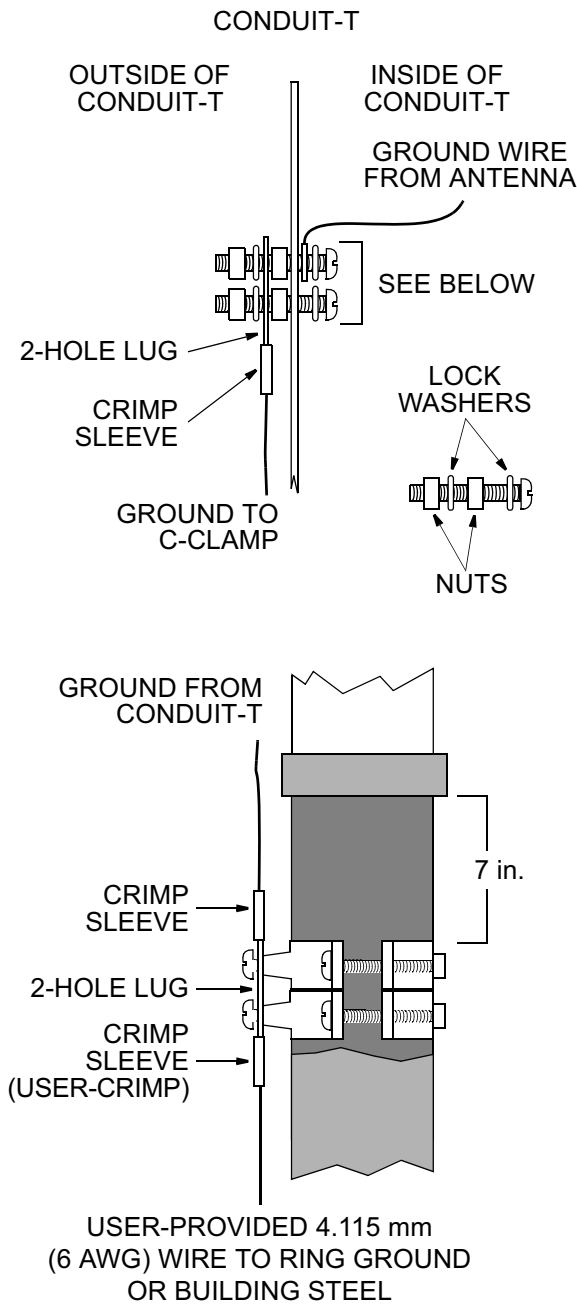
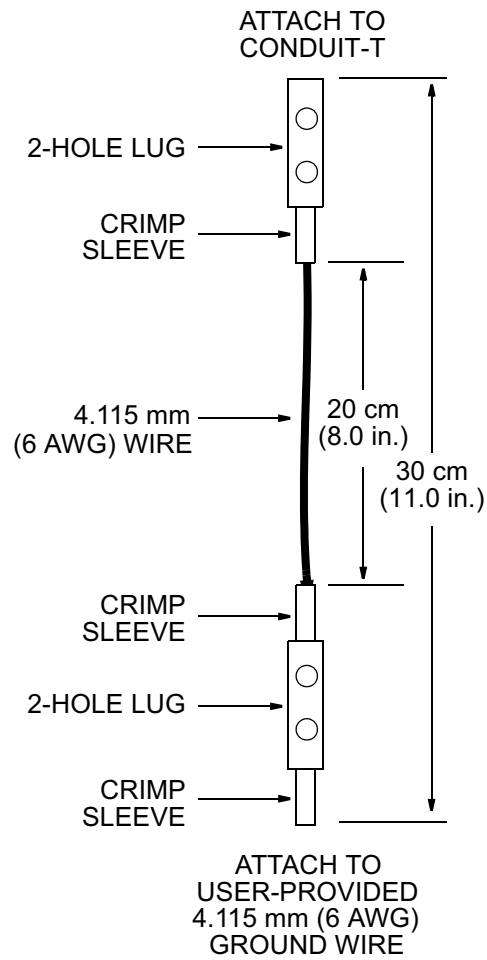

Figure 20. Grounding Wire Connections
Figure 21. Grounding Wire with Two-Hole Lugs
- 43. Insert a 8-32 x 15.8 mm (5/8 inch) bolt through a lock washer (factory-provided), then through the grounding lug on the antenna ground wire, and through one screw hole (from the inside to the outside) on the side of the conduit-T (see Figure 20 and Figure 21).
- 45. Obtain the (factory-provided) 4.115 mm (6 AWG) grounding wire (with two-hole lugs attached at both ends; see Figure 21).
- 46. On the outside of the conduit-T, thread a nut onto the 8-32 x 15.8 mm (5/8 inch) bolt, the two-hole lug without the crimp sleeve, then a second lock washer, and secure with the second nut (factory-provided) (see Figure 20).
- 47. Connect the 4.115 mm (6 AWG) grounding wire to the C-clamps, as illustrated in Figure 20.
51. Crimp the user-provided 4.115 mm (6 AWG) (or larger) grounding wire to the crimp sleeve, as illustrated in Figure 21, to the ring ground on the roof of the building (Figure 18D).